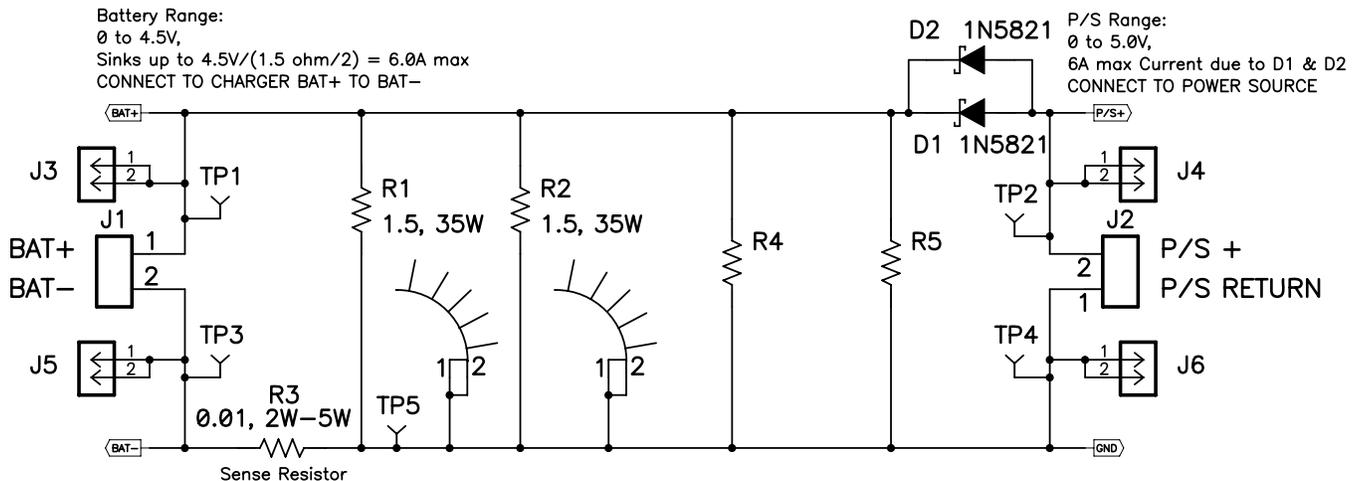

Figure 2. BAT Load (PR1010) Schematic
2. If battery as the load, then a second power supply (PS#2), capable of supplying up to 5 V at 5 A, as shown in Figure 2.
Testing with an actual battery is the best way to verify operation in the system. If a battery is unavailable, then sourcemeter like a Keithley 2420, capable of both sourcing and sinking current, or a circuit similar to the one shown in Figure 2 can simulate a battery when connected to PS#2.
3. Connect a voltage meter (VM#1) across J3 or TP2 (IN) and J7 (GND)
4. If BAT_Load (PR1010), as shown in Figure 2, is used, connect the PR1010 BAT+ terminal of PR1010 in series with a current meter (CM#1) to OUT of J8 or J6. Connect PR1010 BAT – to GND of J8 or J9. Connect the P/S+ and P/S return side of PR1010 to PS#2, set the voltage to 3.1 V +50 mV then disable PS#2.